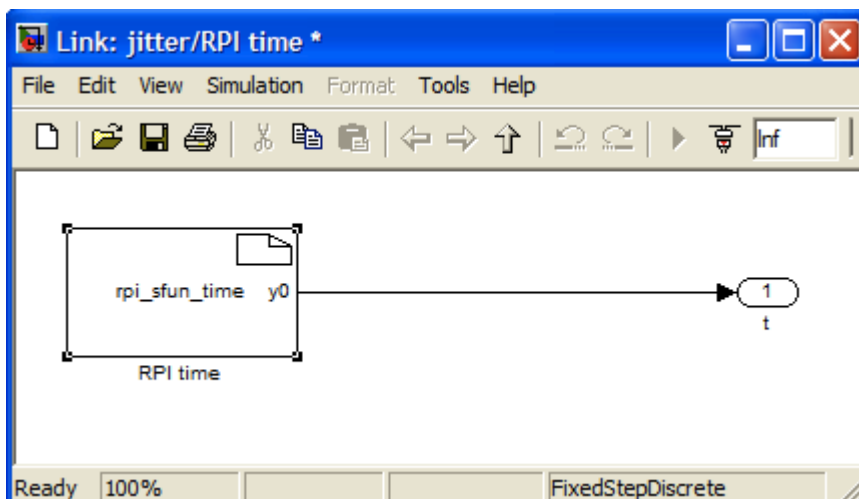

Figure 17 - Insert S-function into a subsystem
10. The S-function clock cannot be masked alone. A simple workaround is to embed it into a subsystem as shown in Figure 17 and then create a mask on the subsystem.